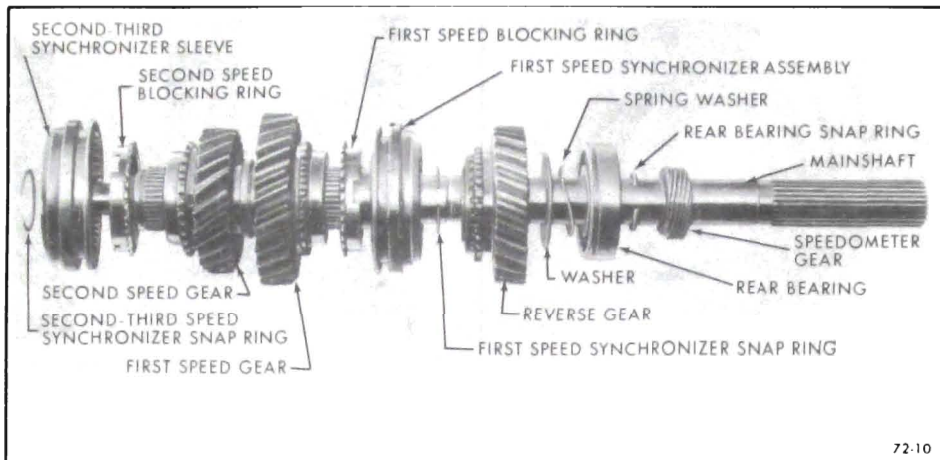

Figure 72-22 - Exploded View of Mainshaft
3. Install reverse gear, thrust washer, spring washer, and rear bearing. See Figure 72-22.
5. Install second-third synchronizer sleeve. See Figure 72-22.